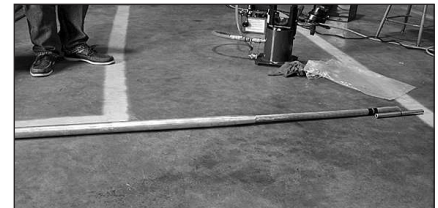

FIGURE 4: Slide sleeve over one conductor so it protrudes out the end.
4. Slide the aluminum sleeve over one conductor until sufficient working length protrudes from end (**Figure 4**).